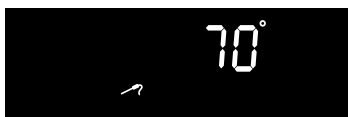

Fig. 2
4. When the probe is detected, a tone will sound, the  icon will illuminate and the current probe temperature will appear in the display (Fig. 2). Close the oven door.